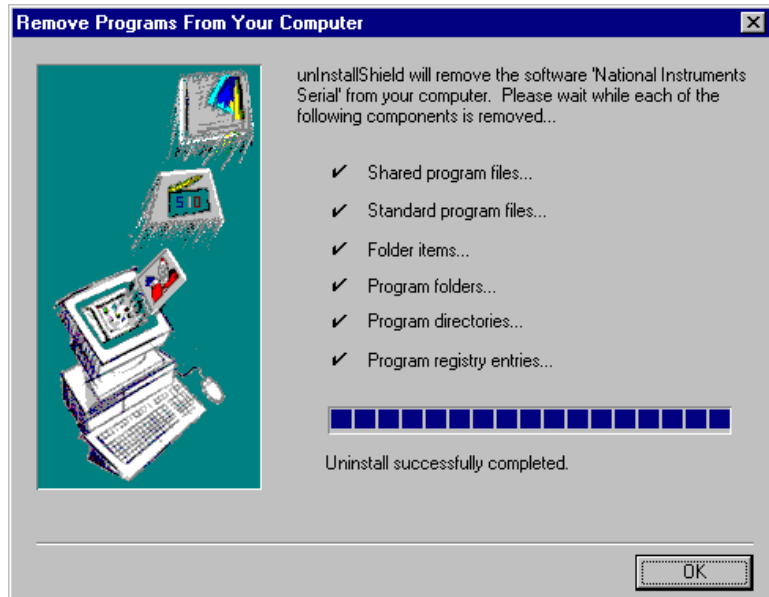

Figure B-3. Successful Uninstallation
3. Select the NI-Serial software you want to uninstall, and click on the **Add/Remove** button. The uninstallation program removes all folders, utilities, and registry entries associated with the NI-Serial software. Figure B-3 shows the results of a successful uninstallation.